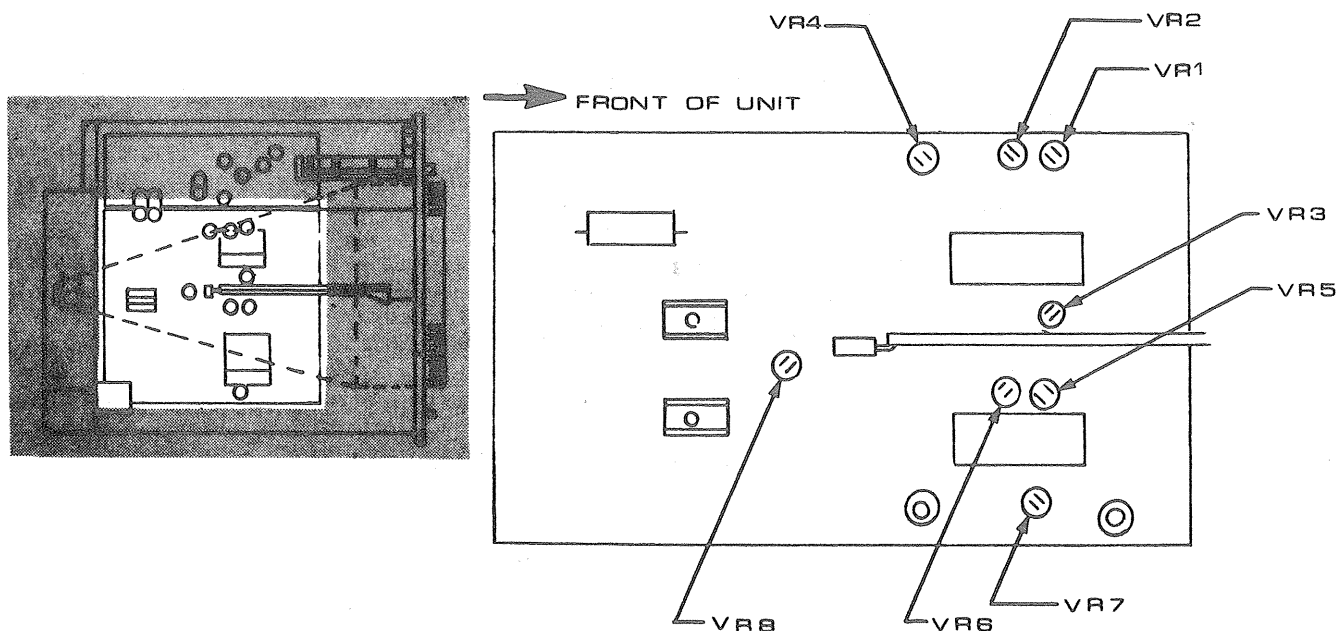
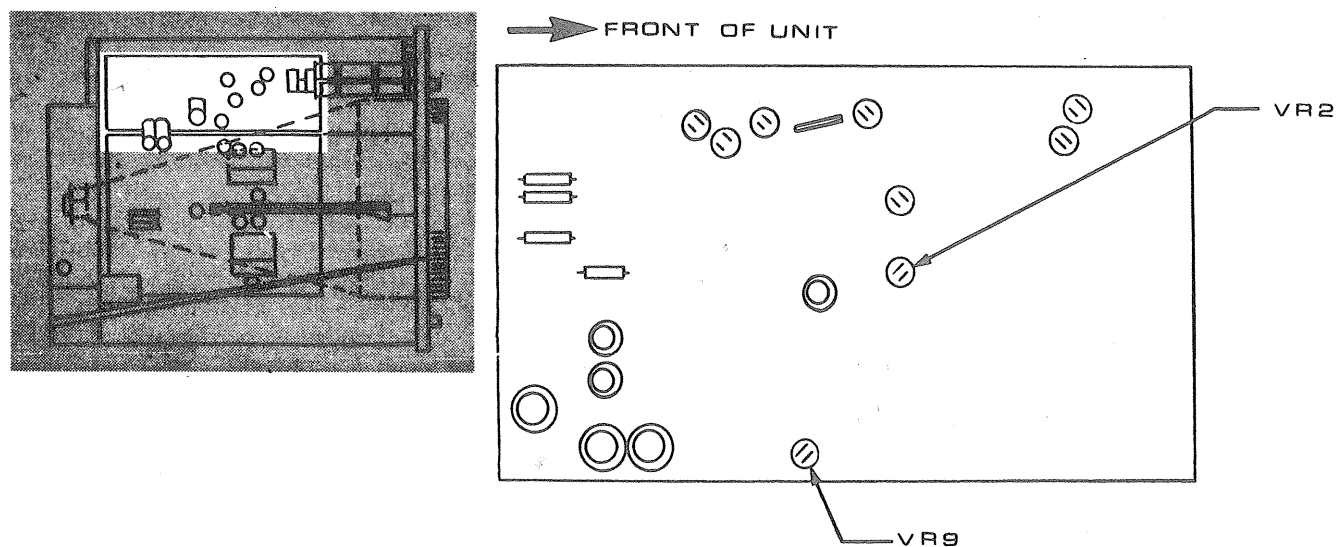

Figure 55.
Figure 56.
The internal adjustments outlined in the calibration procedure can be located by reference to Figure 55 and Figure 56.
CH1 AND CH2 VERTICAL POSITION ADJUSTMENT (Refer to Figure 55)
HORIZONTAL POSITION ADJUSTMENT (Figure 56)
VERTICAL GAIN ADJUSTMENT (Refer to Figure 55)
4. Adjust VR8 (See Figure 55) for Channel 1 gain adjustment for exactly 5 cm, (five large divisions) of vertical deflection on the CRT screen.
3. Adjust VR9 (Figure 56) for exactly 5 cm vertical deflection.